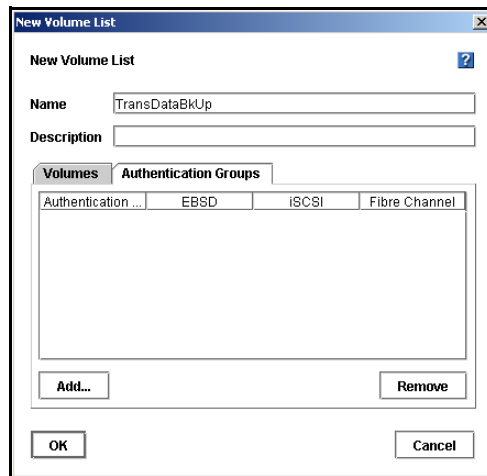

Figure 203. Connecting Authentication Groups to a Volume List
1. Next, select the Authentication Groups tab, shown in Figure 203.